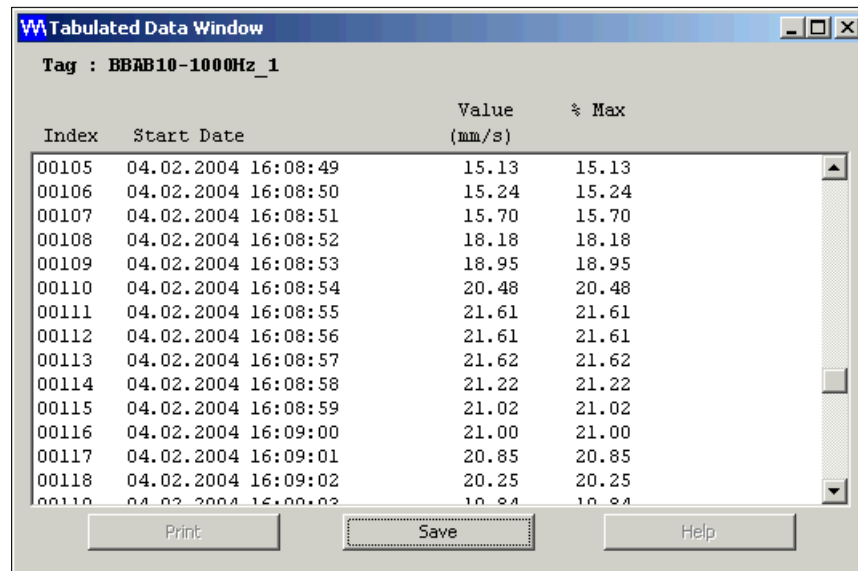

Figure 8-7: Typical Tabulated Data Window
- You can present the trend charts displayed in the Historic Trend Chart window in tabular form by selecting the **Tabulate** command from the **Data** drop-down menu. A Tabulated Data Window resembling that shown in Figure 8-7 appears. This shows the acquisition time and the value recorded. The figure in the **% Max** column expresses the measured value as a percentage of the FSD. To display tabular data for another displayed signal, simply click the name of the signal from the list of names appearing at the bottom of the Historic Trend Chart window.